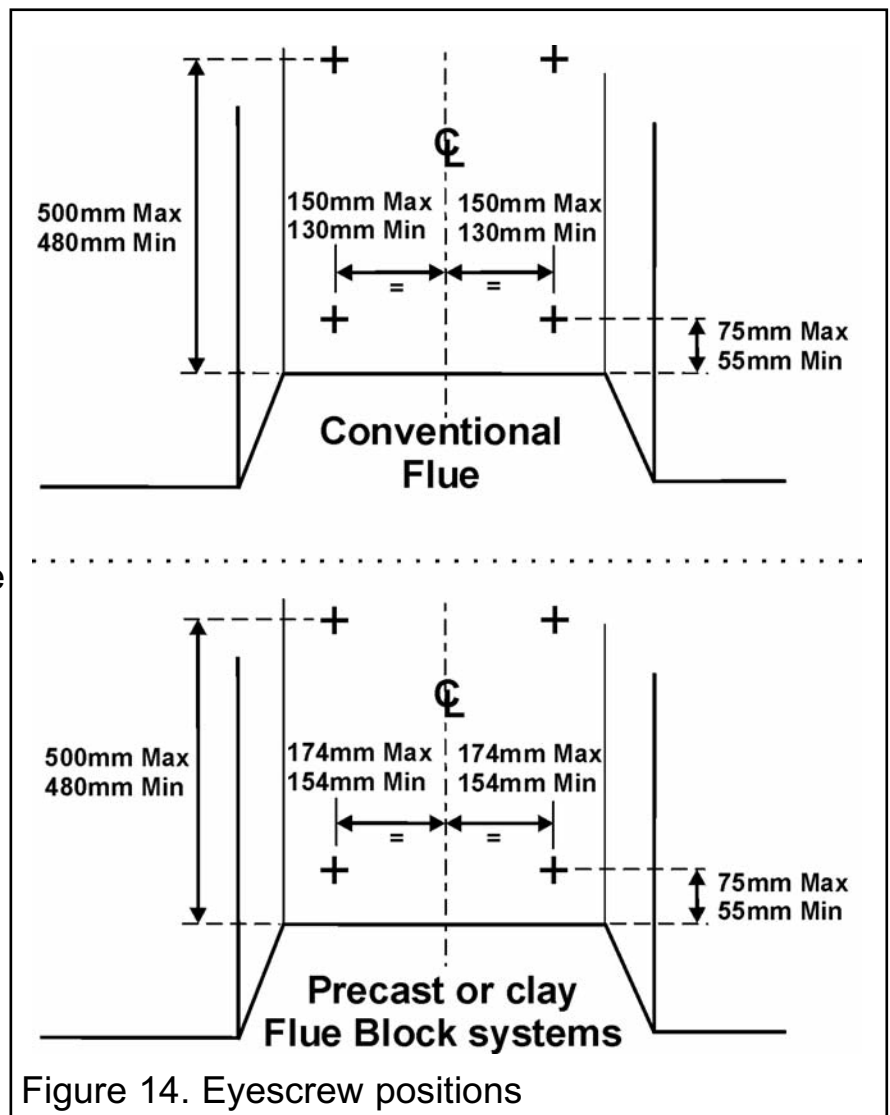

Figure 14. Eyescrew positions
2. Drill four holes in the rear wall of the fireplace for the fibre / wooden wall plugs 'F'. The holes should be drilled within the range of positions shown in figure 14 using a suitably sized masonry drill bit for the fibre / wooden plugs supplied. The holes should be equidistant each side of the centre line of the fireplace to ensure that the appliance finishes centrally in the opening when tension is applied to the cables.